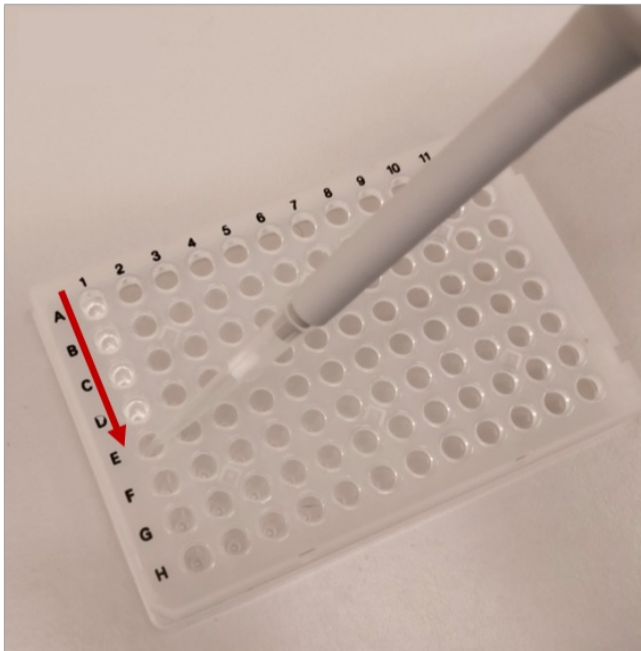

Figure 2a
- i. Always aliquot samples in a vertical format (Fig. 2a).